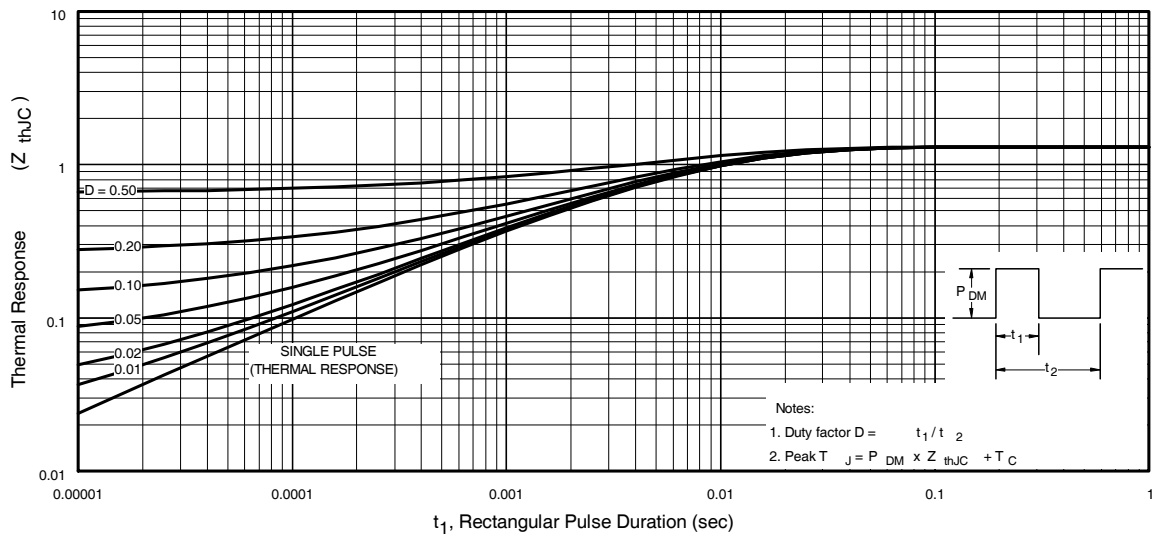

Fig 11. Maximum Effective Transient Thermal Impedance, Junction-to-Case
- ① Repetitive rating; pulse width limited by max. junction temperature. (See fig. 11).
- ② Limited by T_{Jmax} , starting $T_J = 25^\circ\text{C}$, $L = 0.45\text{mH}$, $R_G = 25\Omega$, $I_{AS} = 30A$, $V_{GS} = 10V$. Part not recommended for use above this value.
- ③ $I_{SD} \leq 30A$, $di/dt \leq 280A/\mu s$, $V_{DD} \leq V_{(BR)DSS}$, $T_J \leq 175^\circ\text{C}$.
- ④ Pulse width $\leq 1.0\text{ms}$; duty cycle $\leq 2\%$.
- ⑤ $C_{oss \text{ eff.}}$ is a fixed capacitance that gives the same charging time as C_{oss} while V_{DS} is rising from 0 to 80% V_{DSS} .
$Z_{thJC}(D, t_{av})$ = Transient thermal resistance, see figure 11)